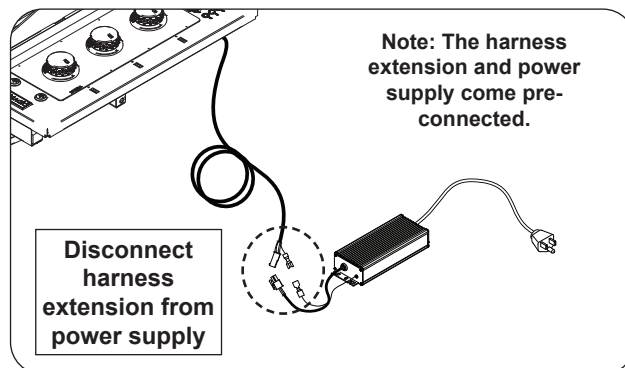

Fig. 29-3 Disconnect harness
2. Locate the harness extension coming from the grill and disconnect it from the power supply (see Fig. 29-3).
5. Reconnect the harness to the power supply (see Fig. 29-3).